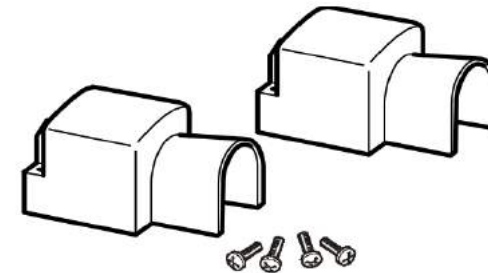

Figure 17 DC Terminal Covers
9. To protect the DC terminals, attach the DC terminal covers (Figure 17) to the inverter/charger, using the screws provided.